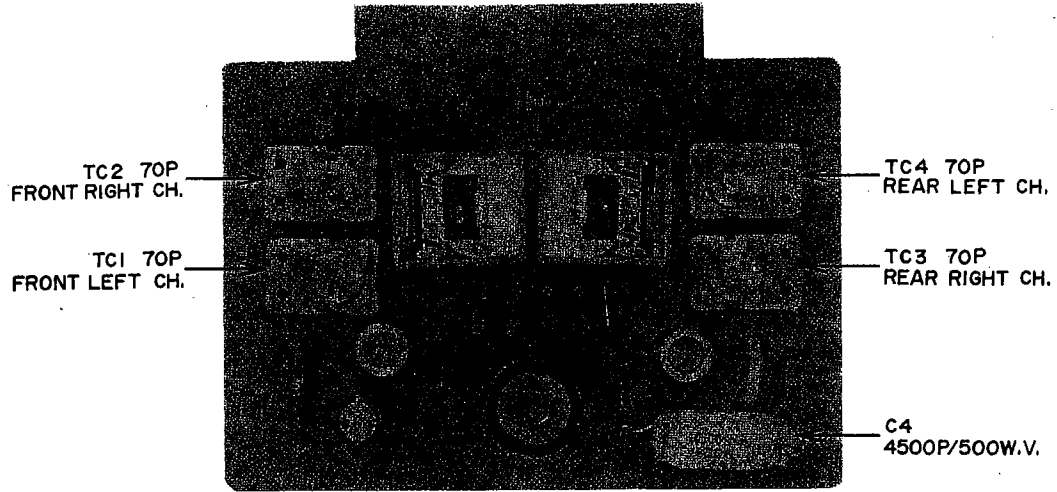

Fig. 26 OSC. P.C. BOARD (FACE SIDE)
The recording bias frequency can be adjusted by changing the value of OSC. P.C. Board condenser C4 (4500P/500 WV) shown in Fig. 26.
- 3) Under these conditions, adjust OSC. P.C. Board recording bias voltage adjustment trimmer condensers TC1 (front left), TC2 (front right), TC3 (rear right), and TC4 (rear left) 70P shown in Fig. 26 to obtain an equally flat frequency response at 1,000 Hz and 10,000 Hz.